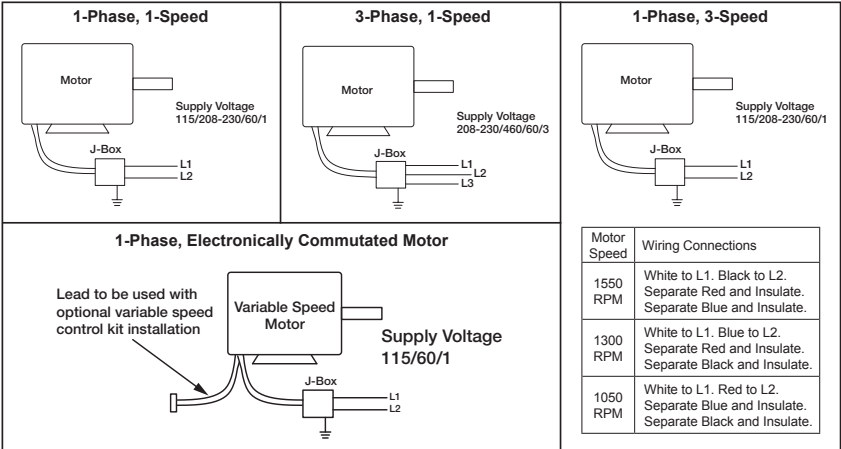

Figure 2
- 9. Connect power supply wiring to the motor as indicating on the motor nameplate, refer to Figure 2 for connection wiring diagram.